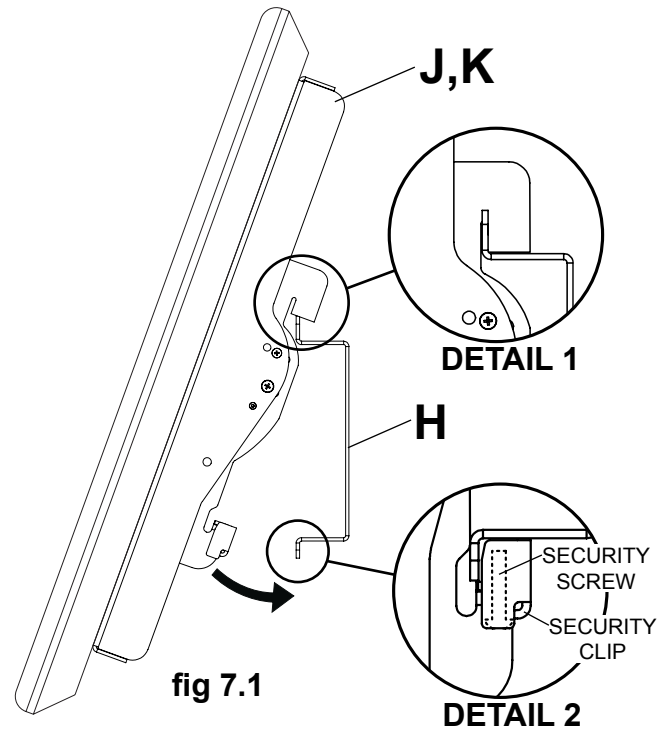

fig 7.1
Mounting Screen: Hook tilt brackets (J,K) onto adapter plate (H) and swing screen in as shown in fig. 7.1. **NOTE:** If the security clip does not clear the bottom of the adapter plate, loosen the security screw with allen wrench (L). Tilt bracket hooks must fully engage adapter plate as shown in detail 1. Tighten security screw using allen wrench (L) until security clip sits firmly against bottom of adapter plate.